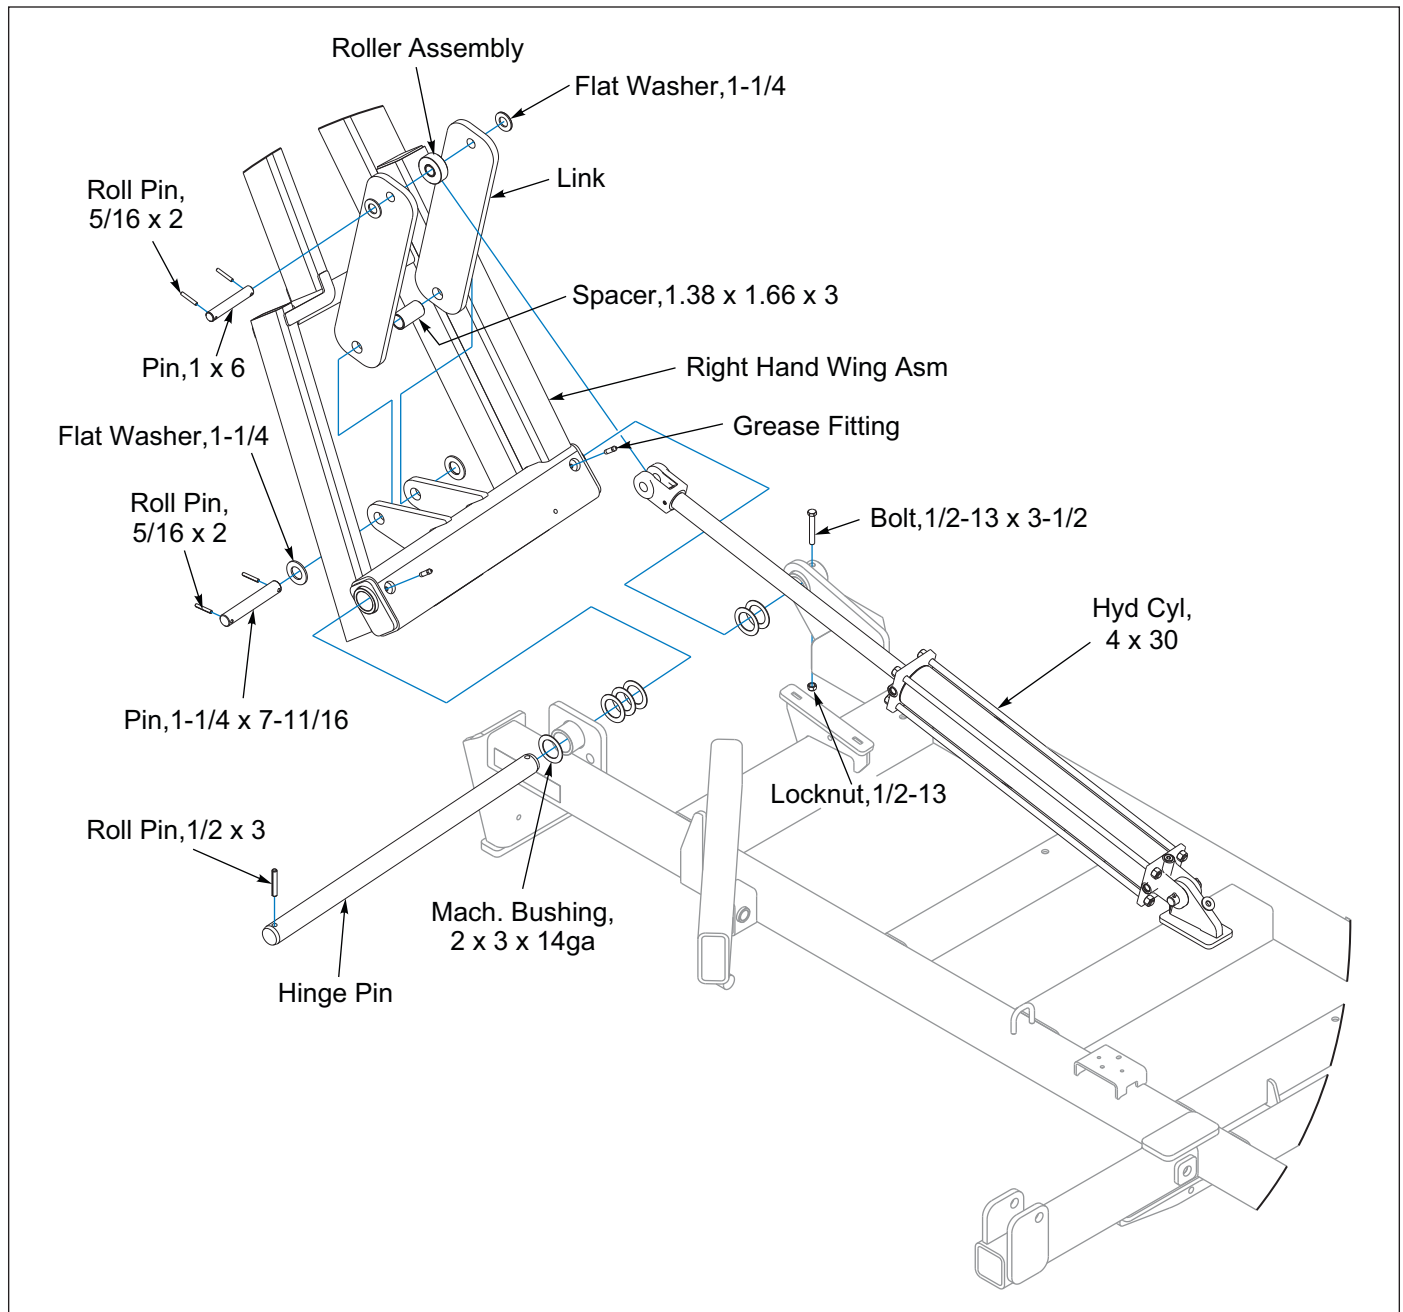

Figure 2-14: Wing to Frame Installation
1. Position the right hand wing frame between the right center frame bushings. Insert two Machinery Bushings between the rear center frame sleeve and the wing frame tube and as many machinery bushings as needed to fill the gap between the wing frame tube and the front center frame sleeve as the Hinge Pin is installed. Secure one end with 1/2-13 x 3-1/2 Bolt and Locknut and opposite end with 1/2 x 3 Roll Pin. Place extra machinery bushings onto the end of Hinge Pin before installing roll pin. **See Figure 2-14.**